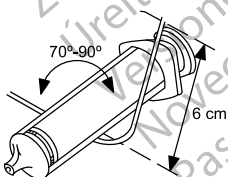

Figure 4. Curve the stylet
2. Select a stylet according to the function and to the preferred firmness. If desired, gently curve the stylet with any sterile, smooth-surfaced instrument (e.g., 10-cc or 12-cc syringe barrel) (Figure 4 Curve the stylet on page 16). A gentle curve is less likely to straighten than a sharp bend as the stylet is used.